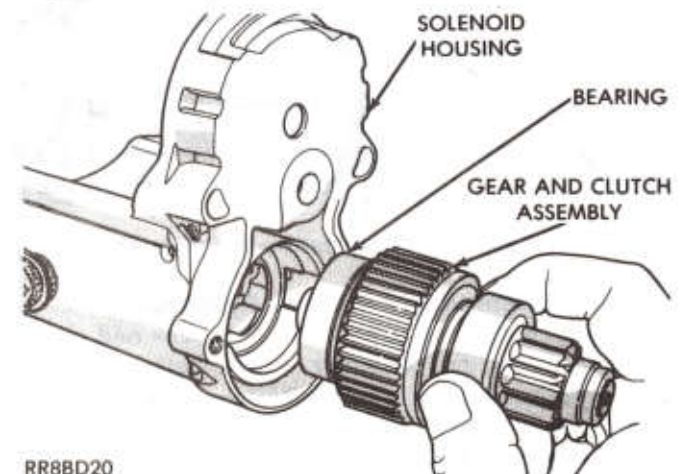

Fig. 16—Remove or Install Gear and Clutch Assembly
(13) Remove the starter gear and clutch assembly from the solenoid housing (Fig. 16).